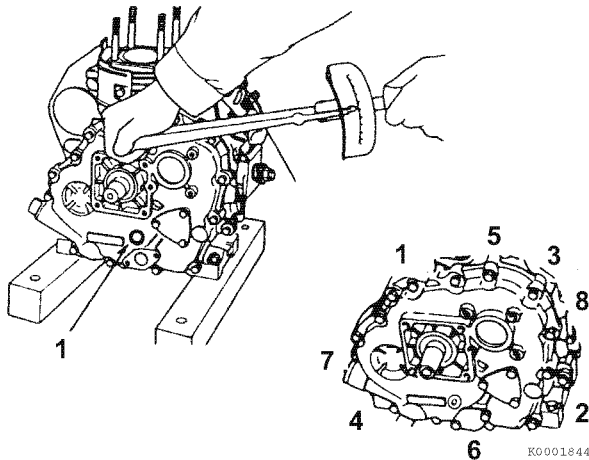

Figure 6-103
5. Install the crankcase cover (1, **Figure 6-103**) while pushing down lightly on the crankcase cover. Slowly turn the flywheel to allow the governor/oil pump drive gear to mesh with the camshaft gear. Maintain the light pressure while “wiggling” the cover slightly to align the balancer shaft bearing and the camshaft bearing with their respective pockets in the underside of the cover until the cover drops into place.
6. Tighten the crankcase cover bolts to the specified torque in two stages (1/2 then full torque) in the sequence shown (**Figure 6-103**). See *Special Torque Specifications* on page 6-17.
- Tighten the stiffener bolts after the bolts on the crankcase perimeter are tightened (**Figure 6-103**). See *Special Torque Specifications* on page 6-17.